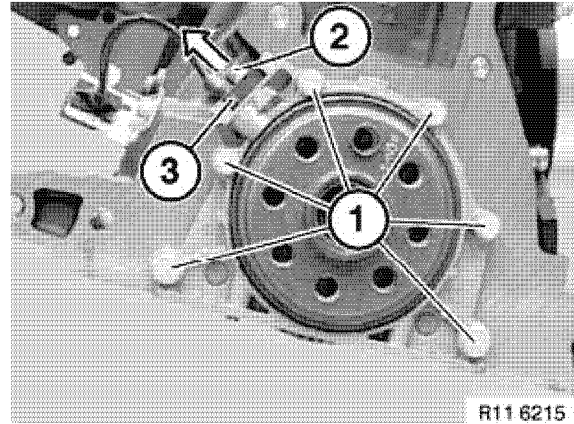

Figure 5-69
4. Remove bolt (2, **Figure 5-69**) and crankshaft sensor (3, **Figure 5-69**). See *Replace Crankshaft Sensor* on page 12-24.
5. Remove bolts (1, **Figure 5-69**) and remove rear crankshaft seal and housing as an assembly.